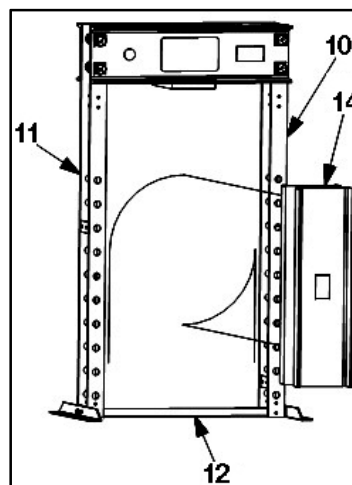

Fig. 5: Installing lower bolster weldment
6. Using a crane, forklift, or other adequate means, insert the Lower Bolster Weldment [item #14] into the frame assembly and rotate into place making sure the top points up as indicated by the placards being right side up. See Fig. 5. Allow the Lower Bolster Weldment [item #14] to sit on the Lower Frame Brace Weldment [item #12] or floor ensuring that the Upright Frame Weldments [items #10 and #11] stay inside the Lower Bolster Weldment [item #14].